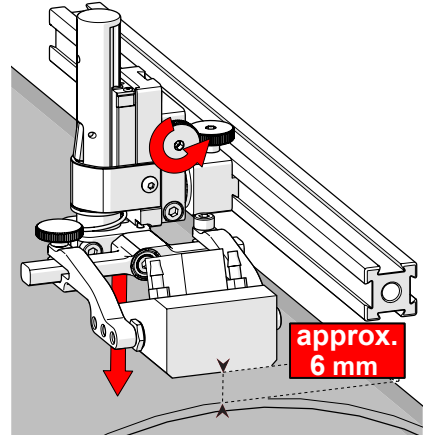

Fig. 66 - Lower toward scan surface
2. Loosen the vertical adjustment knob and slide the probe holder down until the wedge is approximately 6 mm ($\frac{1}{4}$ in) above inspection surface (Fig. 66).